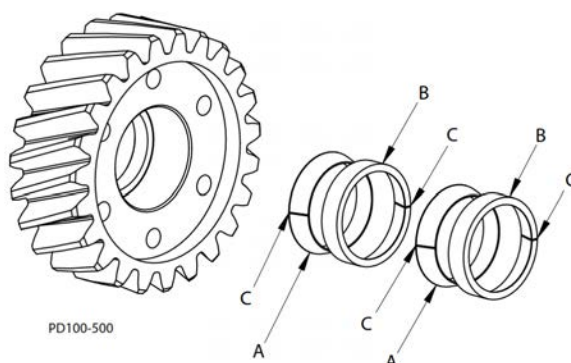
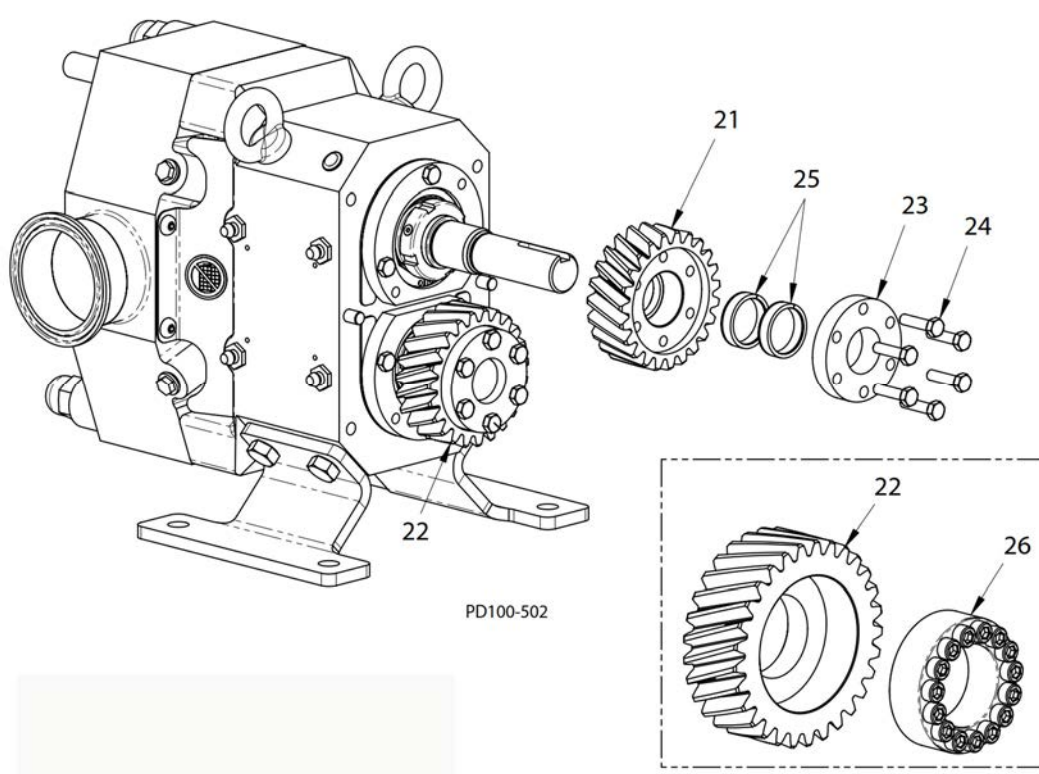

Fig. 60: Locking Element Assembly
Fig. 61: Gear Mounting
2. Assemble the gear (Figure 61, item 22) and locking components onto the lay shaft.
- For models 25-1 to 50-1, this refers to the locking elements (Figure 61, item 25), clamp ring (item 23), and screws (item 24).
- For models 50-2 to 100-1, this refers to the locking assembly (Figure 61, item 26 (inset)).
3. The locking elements (Figure 61, item 25, detailed in Figure 60) consist of a slit inner ring and a slit outer ring. For proper performance, the elements must be assembled in the following order: inner ring (A), outer ring (B), inner ring (A), outer ring (B); with the slits in the rings (item C) staggered 180° apart as shown in Figure 60.
- Assemble the gear (Figure 61, item 21) and locking components onto the drive shaft.